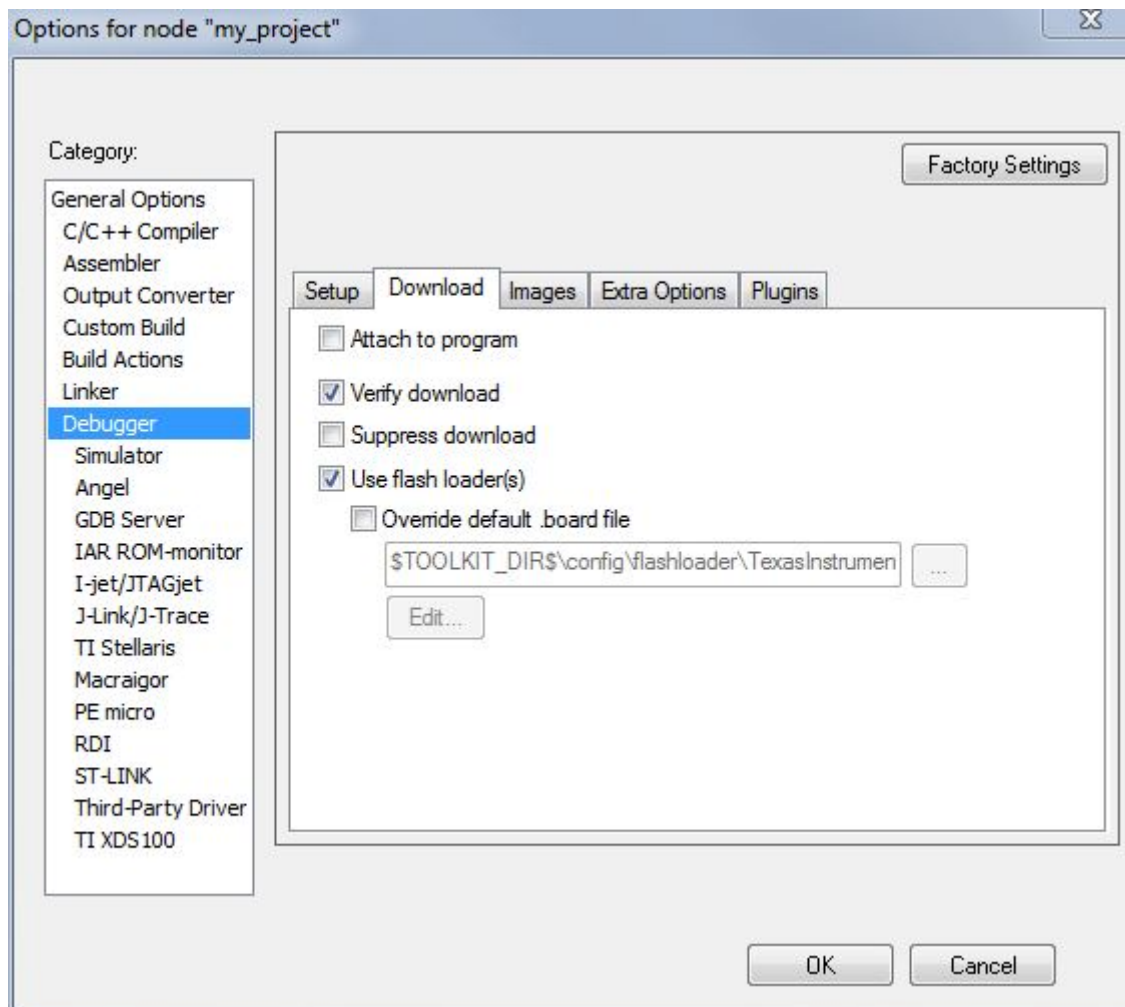

Figure 13.
2. Under the Download tab, check the Verify download and Use flash loader(s) options (see Figure 13).